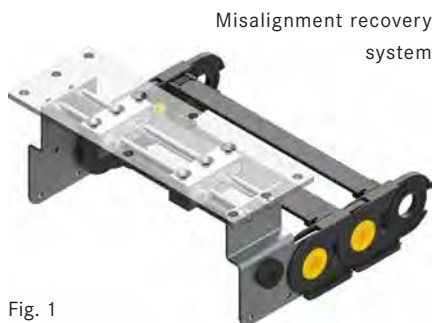

Fig. 1
- Misalignment recovery system (**Fig. 1**) for the mobile point in order to reduce the friction between the sidebands of the chain and the walls of the channel
Despite the precautions taken in the assembly phase, it may be that the channel is not aligned with the movement of the towing arm. If the maximum disalignment between the guide channel line and the movement of the towing arm is bigger than  $\pm 4\text{mm}$  (**Fig. 4**), it is necessary to recover this gap using a misalignment recovery system mounted on the mobile point of the cable chain (**Fig. 1**).